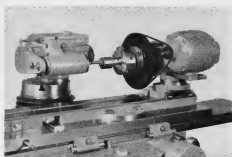

Figure 66A
5. Mount belt guard. Guard is held on machine by stud (Step No. 2) and knurled knob shown in Figure 66A.